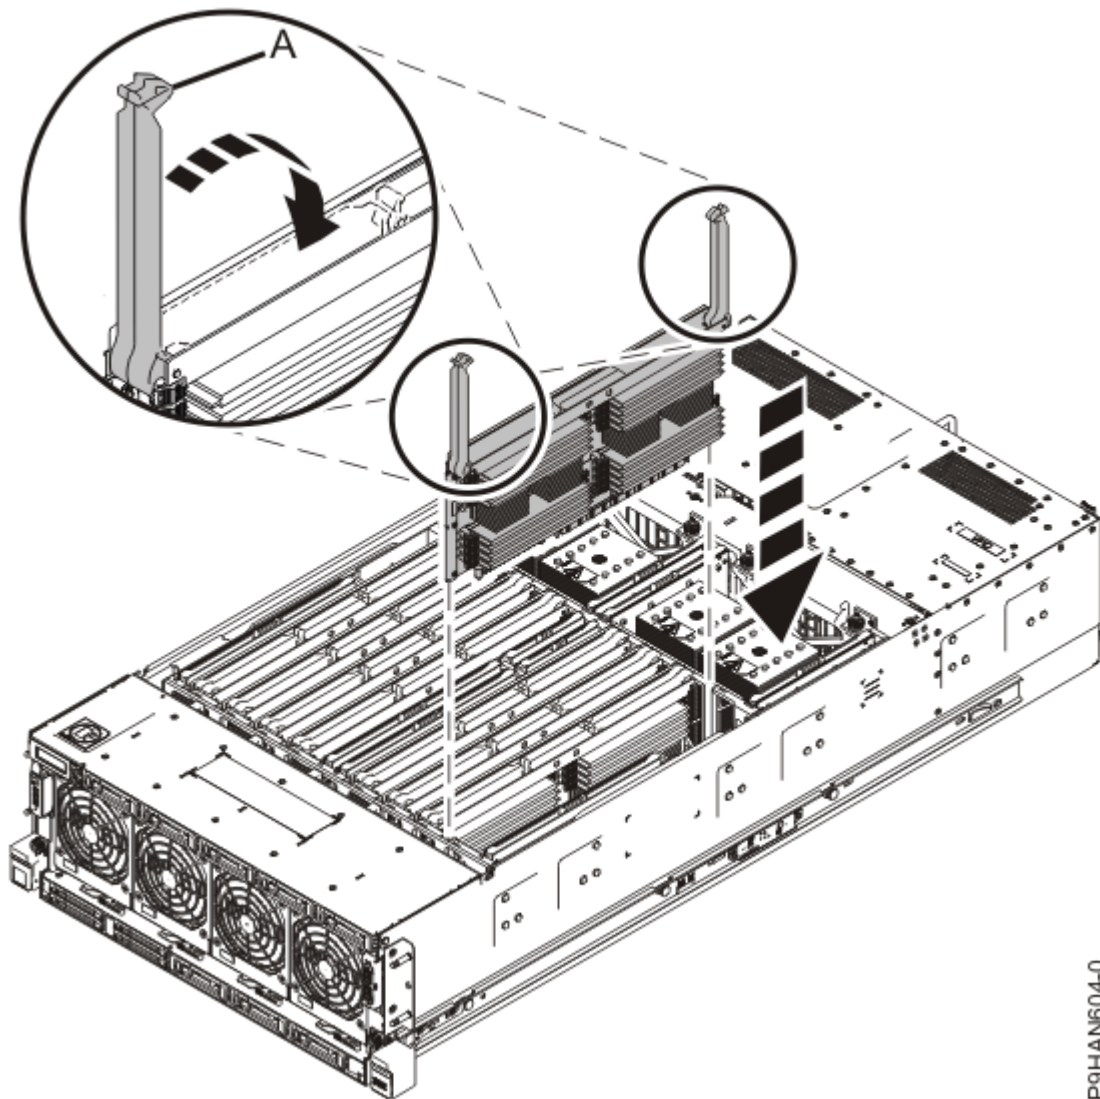

Figure 19: Inserting a memory riser
- a) Ensure that the release latches (**A**) are fully open to a 90-degree angle as shown in Figure 19 on page 20.